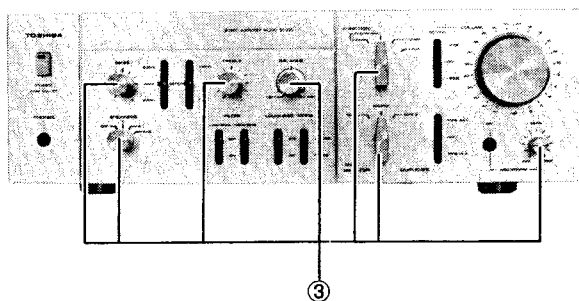

Figure 9
1. Pull out the seven knobs (③). See figure 9.